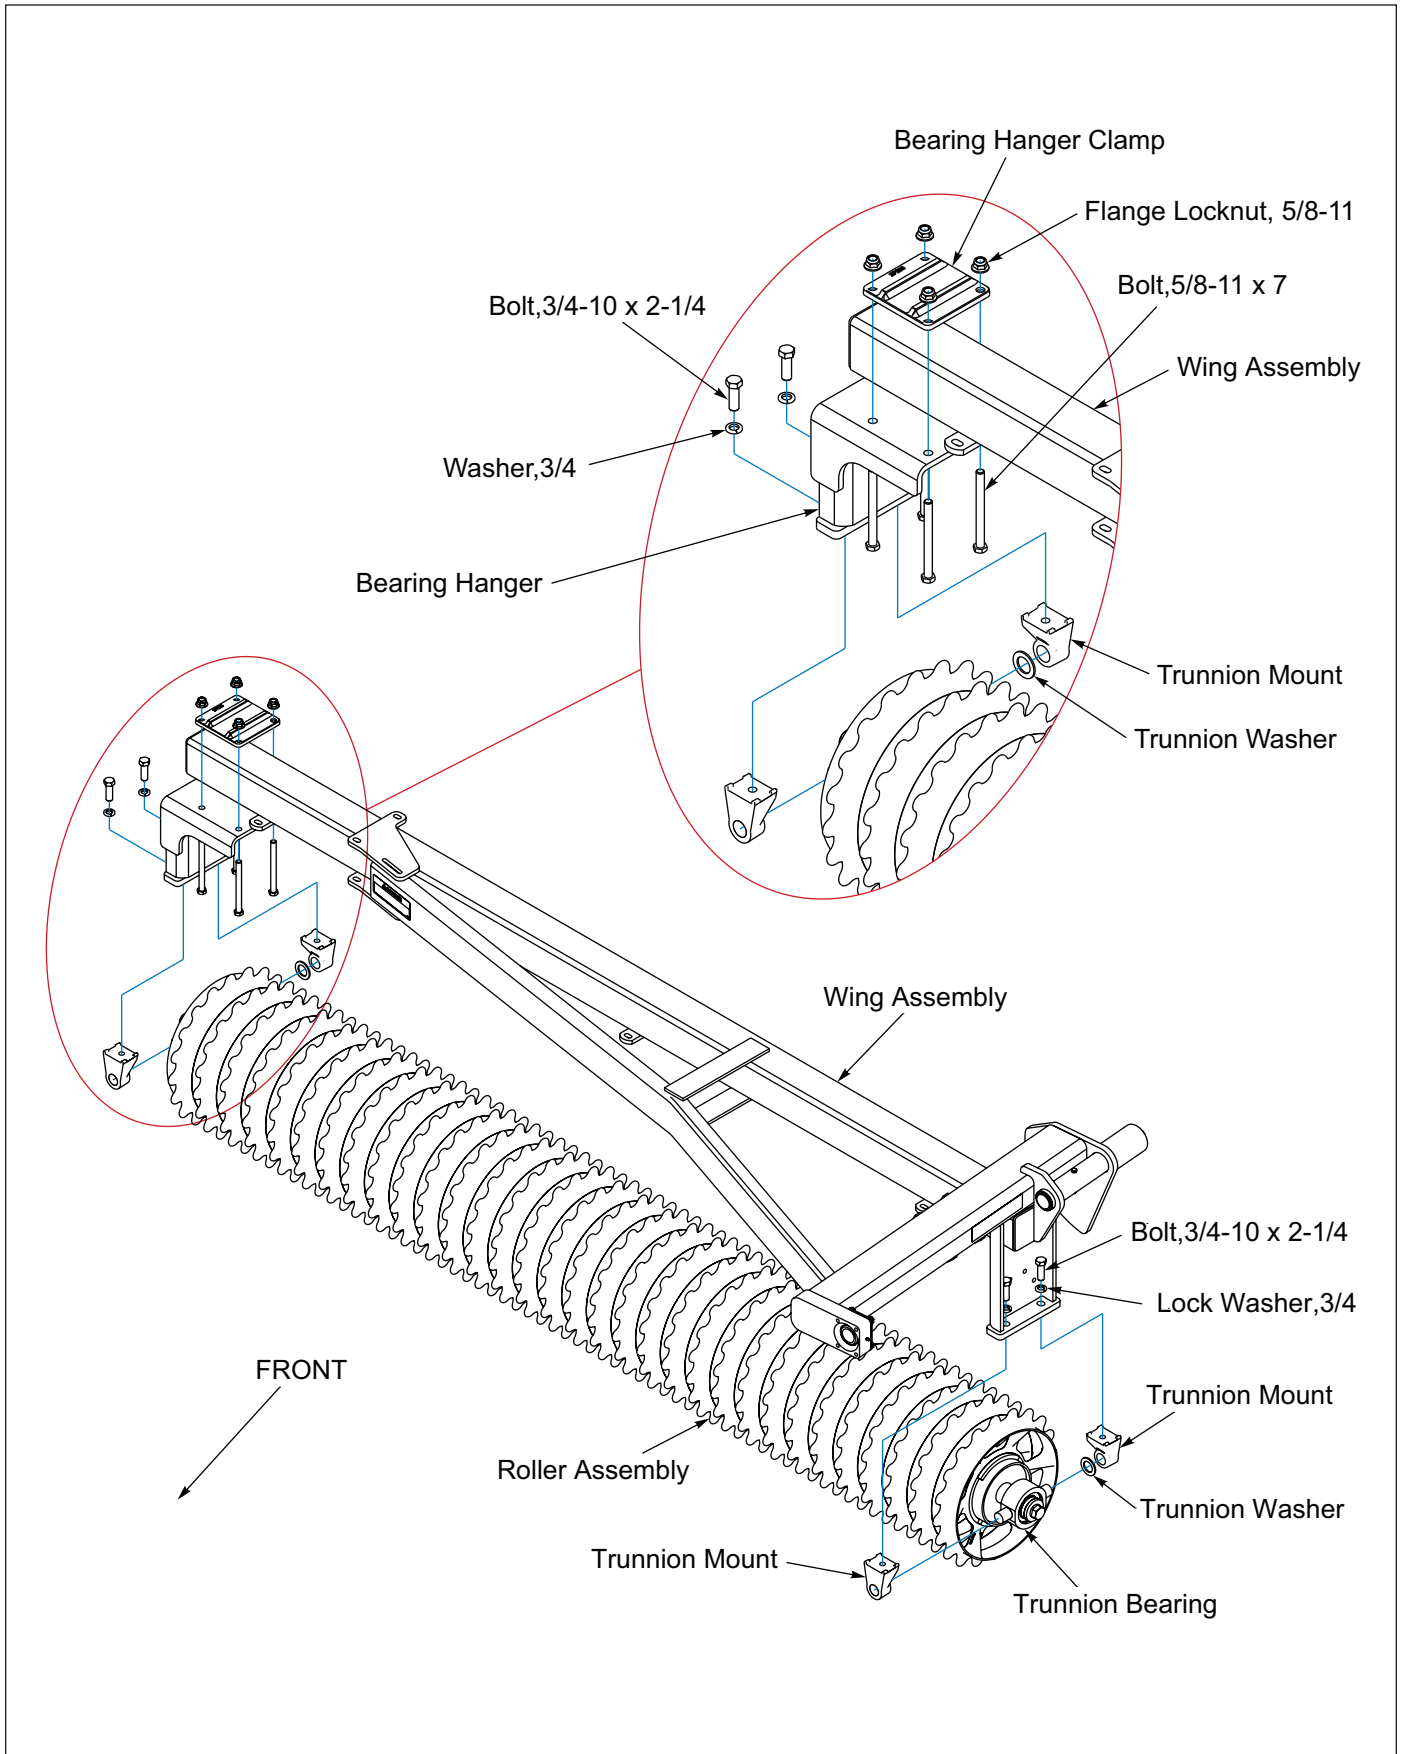

Figure 2-19: Wing Frame Roller Installation
2. Place Bearing Hanger Clamp on the top of the Wing Frame Tube and assemble the bolt on Bearing Hanger on the end of the Wing Frame with .5/8-11 x 7 Bolts and Flange Locknuts. Do not tighten. **See Figure 2-19.**